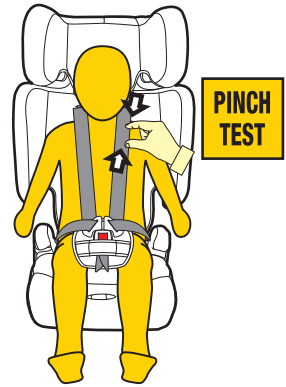

Figure 6
Step 9: Check the harness tightness by the **PINCH TEST**, this is achieved by pinching the harness webbing at the shoulders (refer Figure 6)